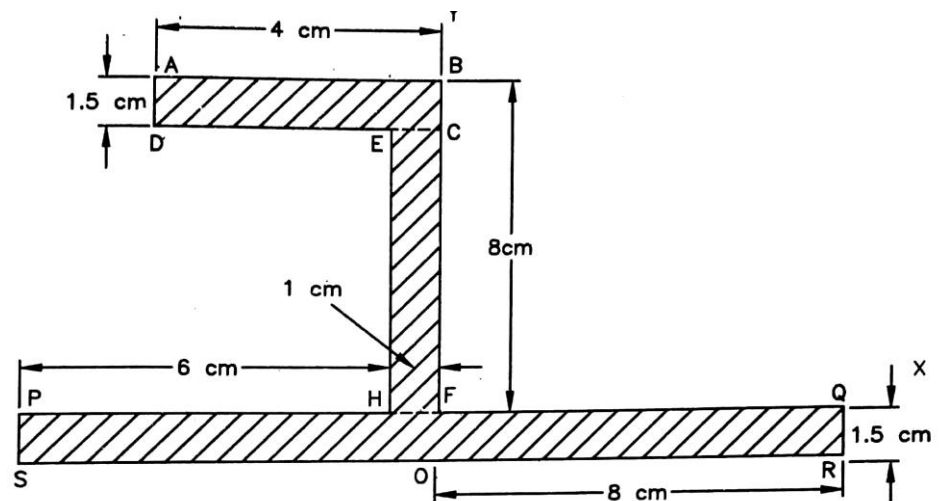

Fig.20
10. Find the centre of gravity of the shaded area shown in below Fig.20 with reference to X-Y co-ordinate system